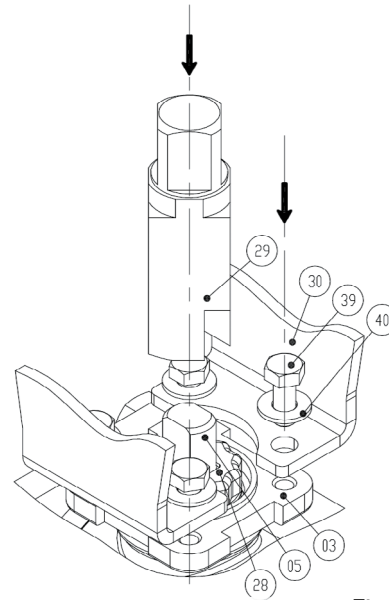

Fig 1
Mounting of the kit on the valve (Fig 1 & Fig 2)
1. Position the kit (30) on Valve ISO top flange (03)
2. Check that nut stop (28) is mounted
3. Position the 4 washers (40) and the 4 screws (39) and tighten them all
4. Body DN 10 to 50: position coupling part (29) on the valve stem (05)(Fig 1)